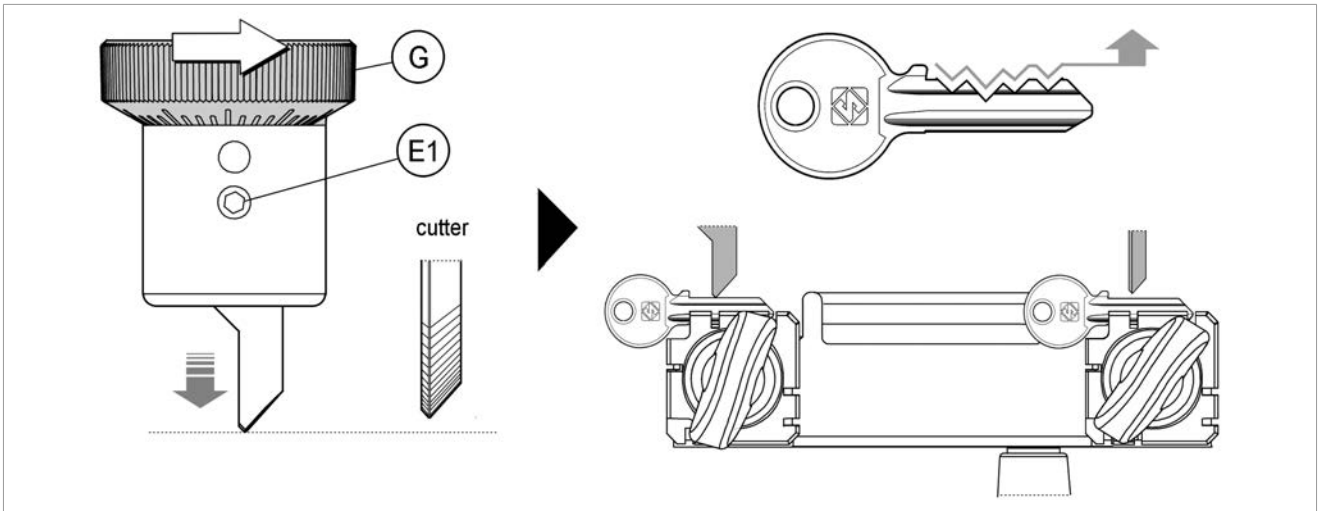

Fig. 17
- b) turn the ring nut (G) clockwise to advance the tracer point (Fig. 17).